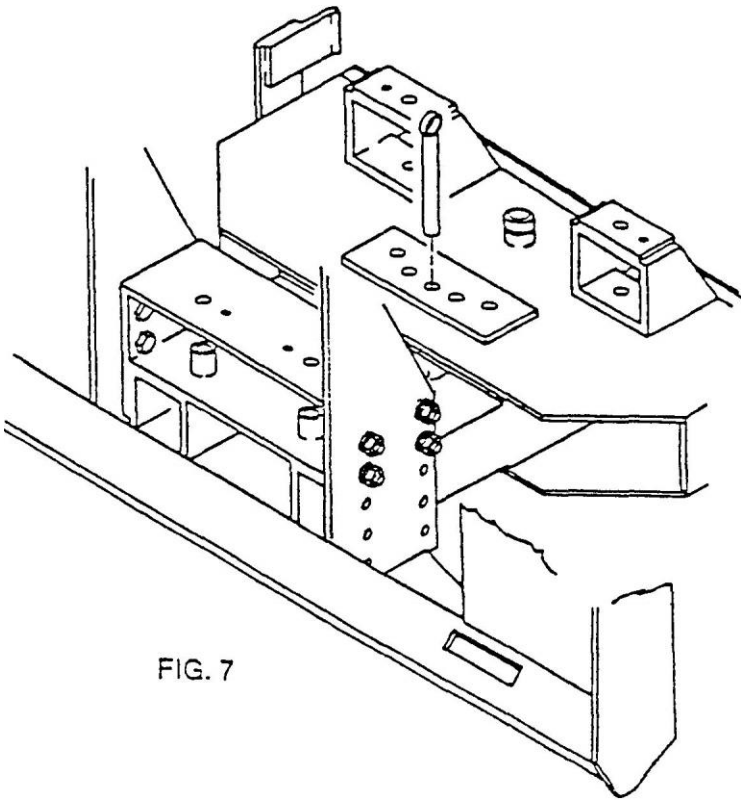

FIG. 7
- (1) Use the manual angle pin only on units not equipped with the hydraulic angle kit. The pin locks the blade in anyone of five positions from left to right. See FIG. 7.